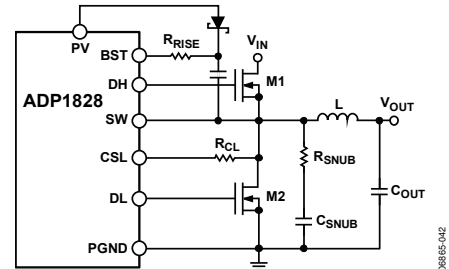

Figure 41. Application Circuit with a Snubber
In any high speed step-down regulator, high frequency noise (generally in the range of 50 MHz to 100 MHz) and voltage overshoot are always present at the gate, the switch node (SW), and the drains of the external MOSFETs. The high frequency noise and overshoot are caused by the parasitic capacitance, C_{gd} , of the external MOSFET and the parasitic inductance of the gate trace and the packages of the MOSFETs. When the high current is switched, electromagnetic interference (EMI) is generated, which can affect the operation of the surrounding circuits. To reduce voltage ringing at the drain of the MOSFET, an RC snubber can be added between SW and PGND, as illustrated in Figure 41. In most applications, R_{SNUB} is about 2 Ω, and C_{SNUB} about 1.2 nF. R_{SNUB} and C_{SNUB} can be calculated using the following equations:
In most applications, a size 0805 component is sufficient. The use of the RC snubber reduces the overall efficiency, generally by an amount in the range of 0.1% to 0.5%. However, the RC snubber cannot reduce the voltage overshoot. A resistor, shown as R_{RISE} in Figure 41, at the BST pin can help to reduce overshoot and is generally between 1 Ω and 5 Ω.